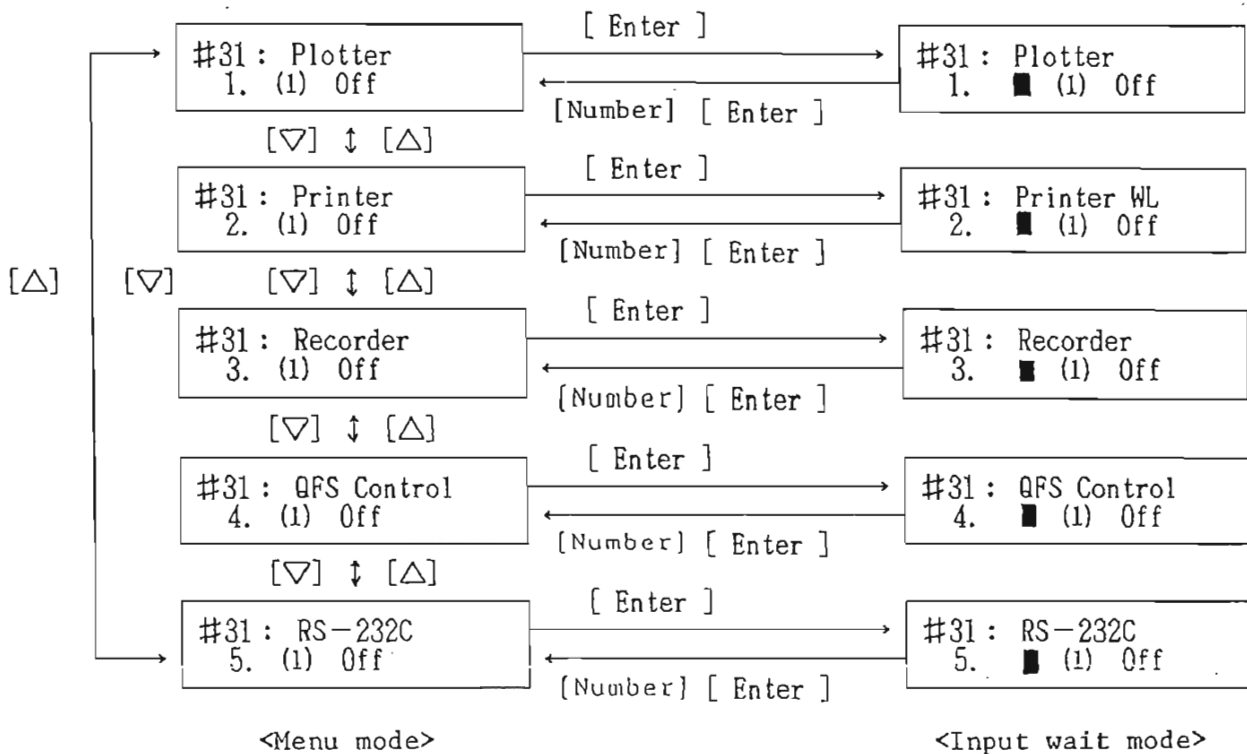
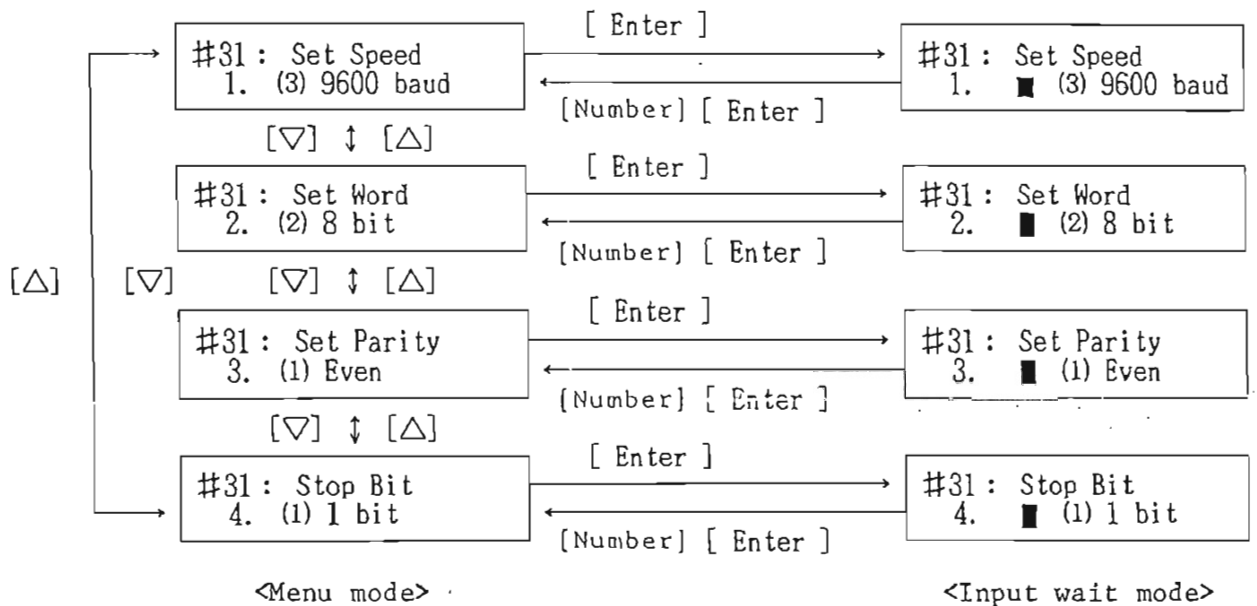

Fig. 12-1 LCD display and key operation is "Method 31".
Fig. 12-2 LCD display when entering parameters for RS-232C interface.
The menu mode of "Method 31" in Fig. 12-1 is caused.
The parameters in the menu mode in Fig. 12-1 mean:
(1) Off: RS-232C interface communication channel is closed.
(2) On: RS-232C interface communication channel is open. In this state, communication with external devices is possible through the RS-232C interface. In this state, keys on the 7800 are not valid.
(3) Set: Selected when changing the parameters of the RS-232C interface. If this is selected, the menu mode for parameter input for the RS-232C interface shown in Fig. 12-2 will be caused.
Select "5. RS-232C" in Fig. 12-1 and then "(3) Set", and the menu mode in Fig. 12-2 will be caused.
The parameters in the menu mode in Fig. 12-2 mean:
the parameter input range and input method are briefly described. With all inputs being completed, press the [Method] key to resume the display in Fig. 12-1.
NOTE: Pressing the [Method] key on the display in Fig. 12-2 resumes the display in Fig. 12-1.